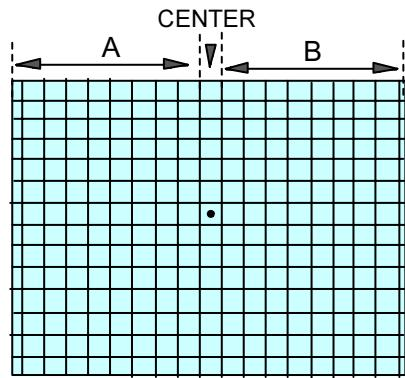

Fig.2-2 NTSC CROSS HATCH
2. Use the VOLUME + or - key on the remote controller to adjust and position the dot mark appearing in the center of the cross hatch screen to the middle and to equalize the number of boxes appearing in the right and left sides of the screen (A=B). (Fig. 2-2)